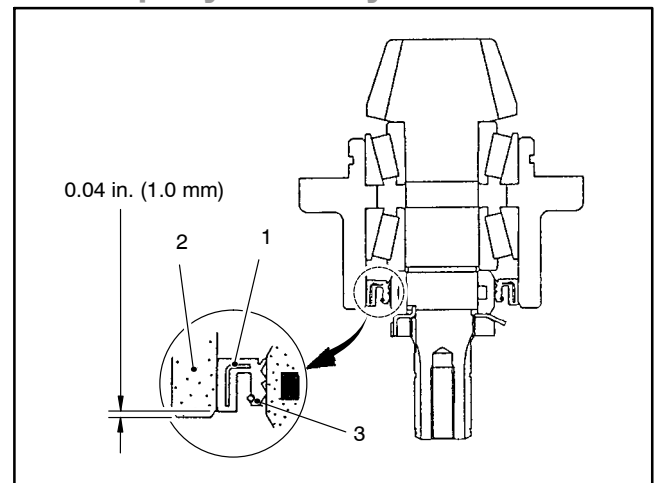

Figure 29
3. Coat a new oil seal with grease and install as shown (Fig. 29). The seal should be installed with the garter spring towards the hydraulic motor.